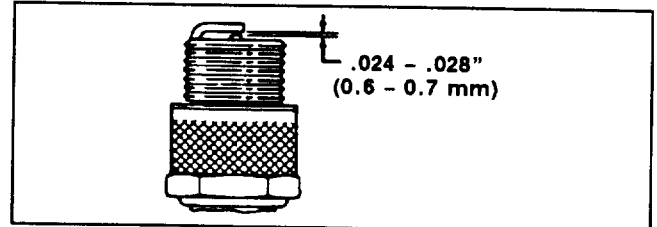

Figure 17
3. Set air gap at .024 - .028" (0.6 - 0.7 mm) (Fig. 17). Install correctly gapped spark plug and gasket seal. Tighten plug firmly to 9 ft-lb (1.2 Kg-m).